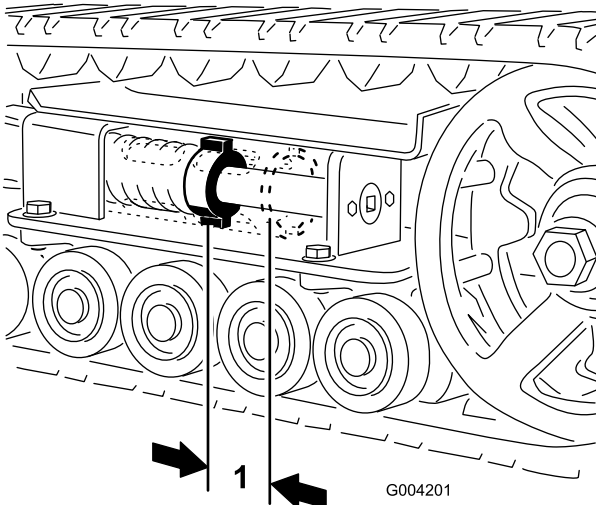
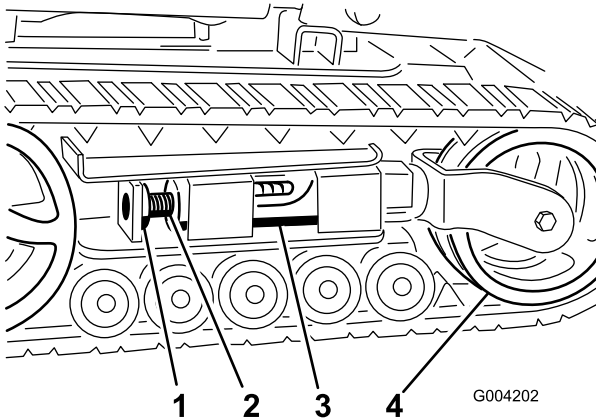
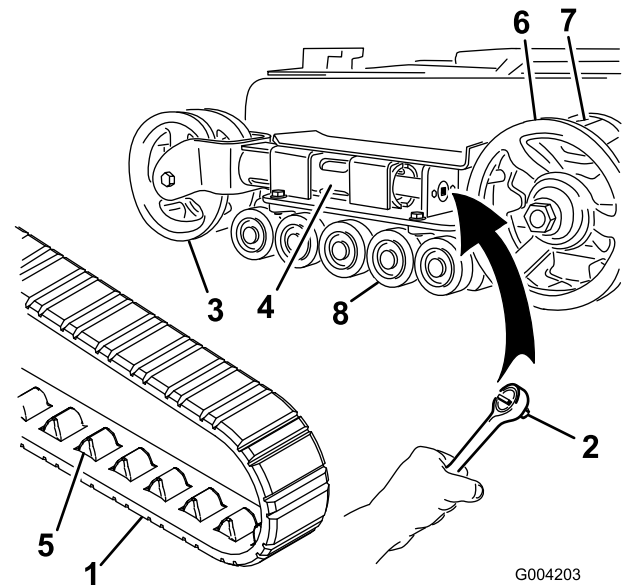
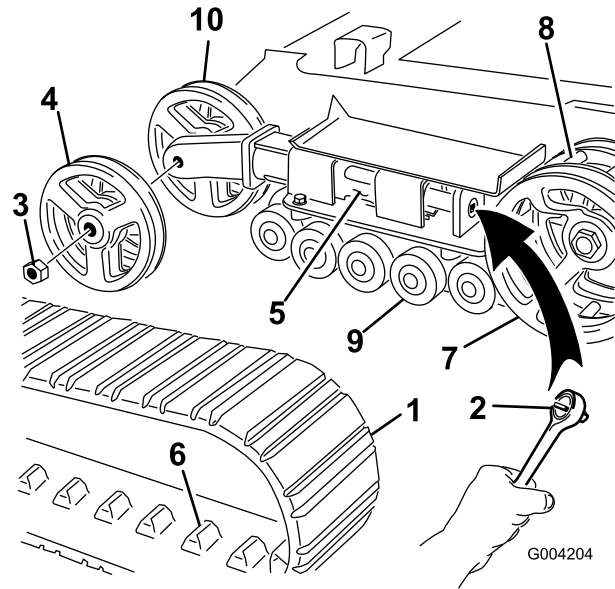

Figure 41
Figure 42
Figure 43
Figure 44
Check and adjust the track tension after the first 50 operating hours and every 100 operating hours thereafter. There should be 2-3/4 inches (7 cm) between the tension nut and the back of the tension tube (Figure 41). If not, adjust the track tension using the following procedure:
3. Remove the locking bolt and nut (Figure 42).
4. Using a 1/2 inch drive socket (Figure 43), turn the tensioning screw counterclockwise until the distance between the tension nut and the back of the tension tube (Figure 41) is 2-3/4 inches (7 cm).
5. Align the closest notch in the tension screw to the locking bolt hole and secure the screw with the locking bolt and nut (Figure 42).
4. Using a 1/2 inch drive socket, release the drive tension by turning the tensioning screw clockwise (Figure 42 and Figure 43).
5. Push the tension wheel toward the rear of the unit to move the fork tube against the frame (Figure 43). (If it does not touch the frame, continue turning the tensioning screw until it does.)
7. When the track is off of the tension wheel, remove it from the drive sprocket and road wheels (Figure 43).
8. Beginning at the drive sprocket, coil the new track around the sprocket, ensuring that the lugs on the track fit between the spacers on the sprocket (Figure 43).
9. Push the track under and between the road wheels (Figure 43).
11. Turn the tensioning screw counterclockwise until the distance between the tension nut and the back of the fork tube (Figure 41) is 2-3/4 inches (7 cm).
4. Using a 1/2 inch drive socket, release the drive tension by turning the tensioning screw clockwise (Figure 42 and Figure 44).
5. Push the tension wheel toward the rear of the unit to move the tension tube against the frame (Figure 44). (If it does not touch the frame, continue turning the tensioning screw until it does.)
6. Remove the nut securing the outer tension wheel and remove the wheel (Figure 44).
7. Remove the track (Figure 44).
8. Remove the nut securing the inner tension wheel and remove the wheel (Figure 44).
12. Install the inner tension wheel and secure it with the nut removed previously (Figure 44).
14. Install the new track, ensuring that the lugs in the track fit between the spacers in the middle of the drive sprocket (Figure 44).
15. Install the outer tension wheel and secure it with the nut removed previously (Figure 44).
17. Turn the tensioning screw counterclockwise until the distance between the tension nut and the back of the tension tube (Figure 41) is 2-3/4 inches (7 cm).